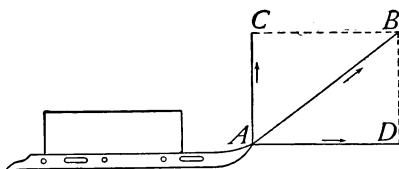

FIG. 62.— AD is the effective component.
(3) RESOLUTION OF FORCES
82. Resolution of Forces.—We have been studying the effect of forces in producing motion and the results of combining forces in *many* ways; in the *same line*, in *parallel lines*, and in *diverging lines*. Another case of much interest and importance is *the determination of the effectiveness of a force in a direction different from the one in which it acts*. This case which is called *resolution of forces* is frequently used. To illustrate: one needs but to recall that a sailor uses this principle in a practical way whenever he sails his boat in any other direction than the one in which the wind is blowing, *e.g.*, when the wind is blowing, say from the north, the boat may be driven east, west, or to any point south between the east and west and it is even possible to beat back against the wind toward the northeast or northwest. Take a sled drawn by a short rope with the force applied along the line *AB* (see Fig. 62); part of this force tends to lift the front of the sled as *AC* and a part to draw it forward as *AD*. Hence not all of the force applied along